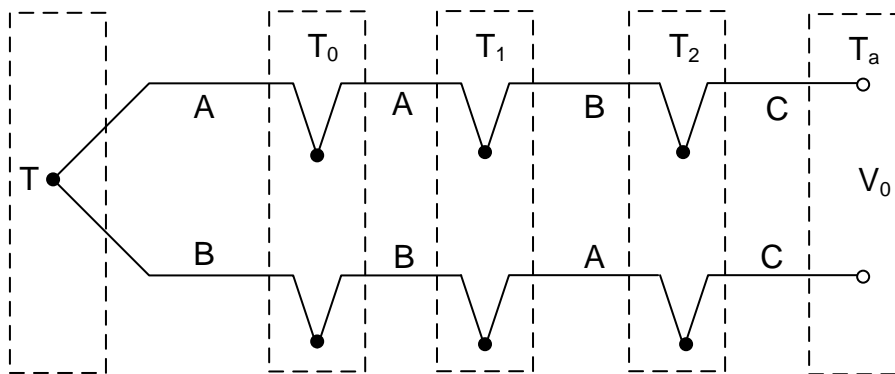

Figure 6: Simulate reference junction at 0°C.
- (5p) (e) Figure 6 shows a circuit in which three types of wires (A, B, C) are combined into several thermocouples with two intermediate temperatures T_1 and T_2 and a temperature T at the measurement junction. What relation must T_1 and T_2 have such that the output voltage only depends on T ?